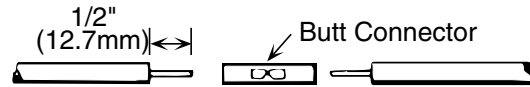

Figure 4-2: Insert Wires
- C. Trim insulation back 1/2" (13mm) from supply wire and motor lead ends (Figure 4-2).